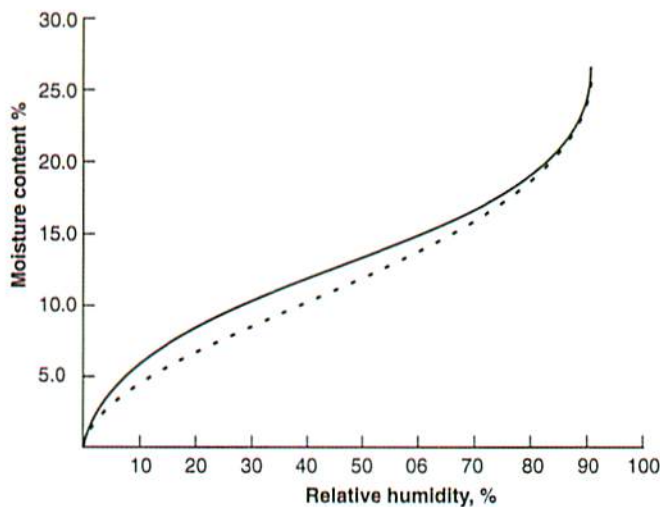

Fig. 26. Desorption (—) and adsorption (-----) isotherms for wheat at 30°C
- **Isotherm:** is the sigmoidal curves of desorption or adsorption (Fig. 26).